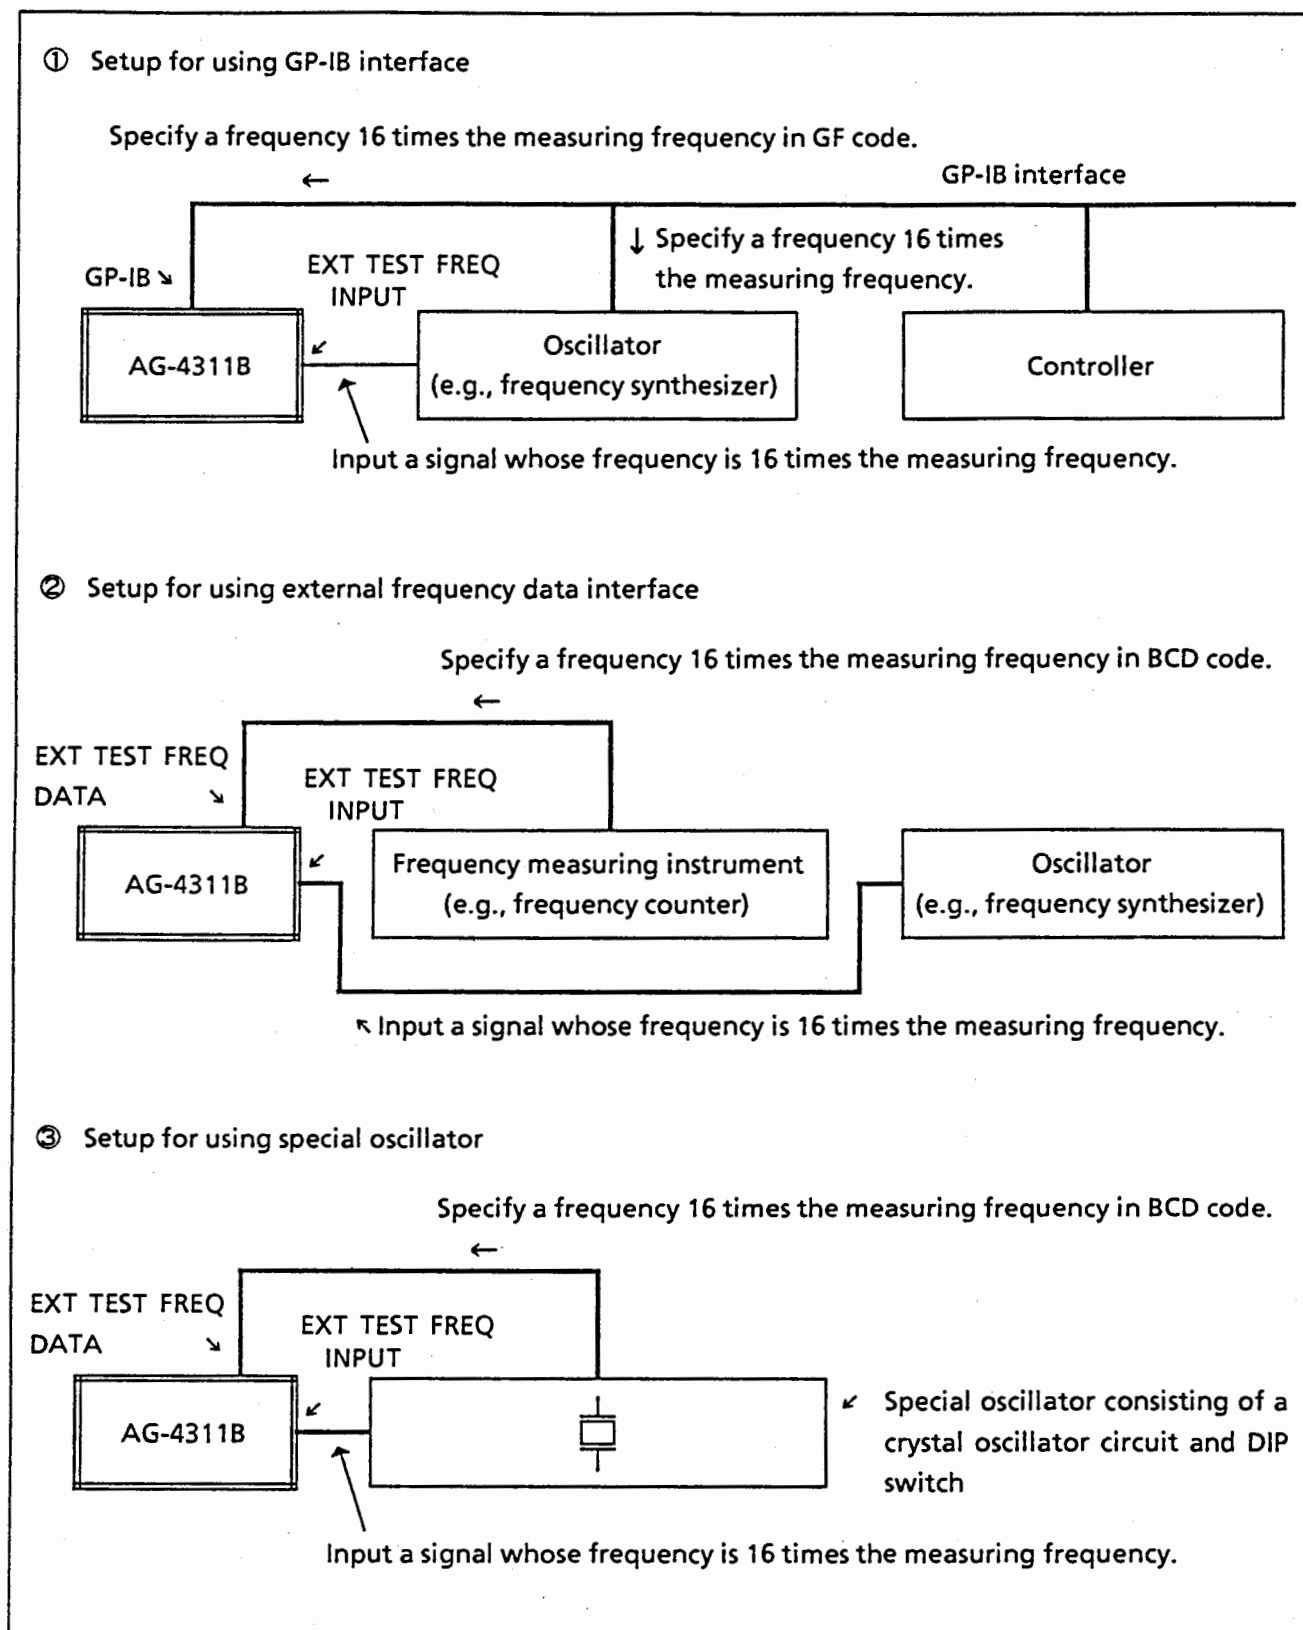

Fig. 3-7. Setups for Measurement by Use of External Frequency
Fig. 3-7 shows schematic diagrams of setups for making measurement using an external frequency. Setup ① is for making measurement using an external frequency and specifying the external frequency value via the GP-IB interface. In the setup, the controller is to control the external oscillator and input the frequency value to the apparatus. In this way, measurement can be made in a frequency range of 100 Hz to 100 kHz. For the method of external frequency specification via the GP-IB interface, see Table 3-14.
Setups ② and ③ shown in Fig. 3-7 are for making measurement using the external frequency and specifying the external frequency value via the external frequency data interface. Setup ② includes an external oscillator and an external frequency counter; setup ③ includes a special oscillator containing a crystal oscillator circuit. In both setups, the external frequency value is to be input in BCD code to the EXT TEST FREQ DATA connector. For the functions of the external frequency data interface, see Table 3-12. The operator is required to familiarize himself with the signal names and connector pin numbers listed in the table beforehand. Also, be sure to observe the precautions set forth in the table so as to use the apparatus correctly and safely.